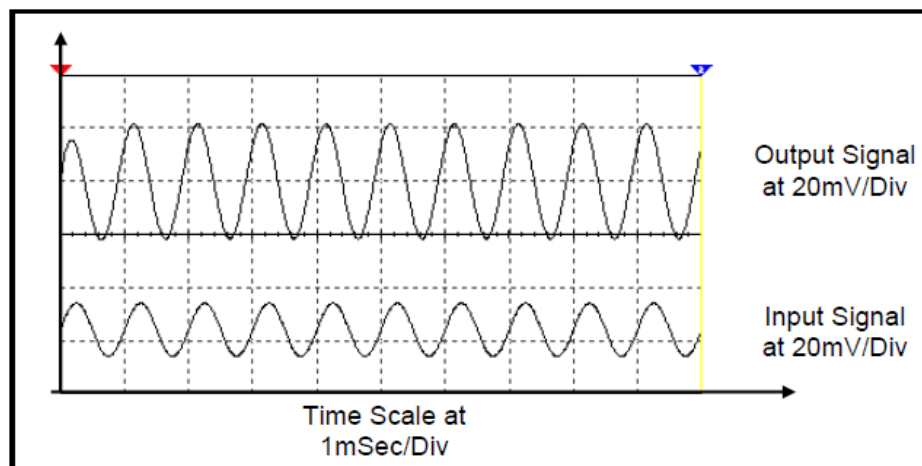

Fig.16 Input and output signals of CG amplifier
- Adjust the VOLT/DIV for Ch.A and Ch.B, hence adjust the TIME/DIV of the oscilloscope; Fig.16.